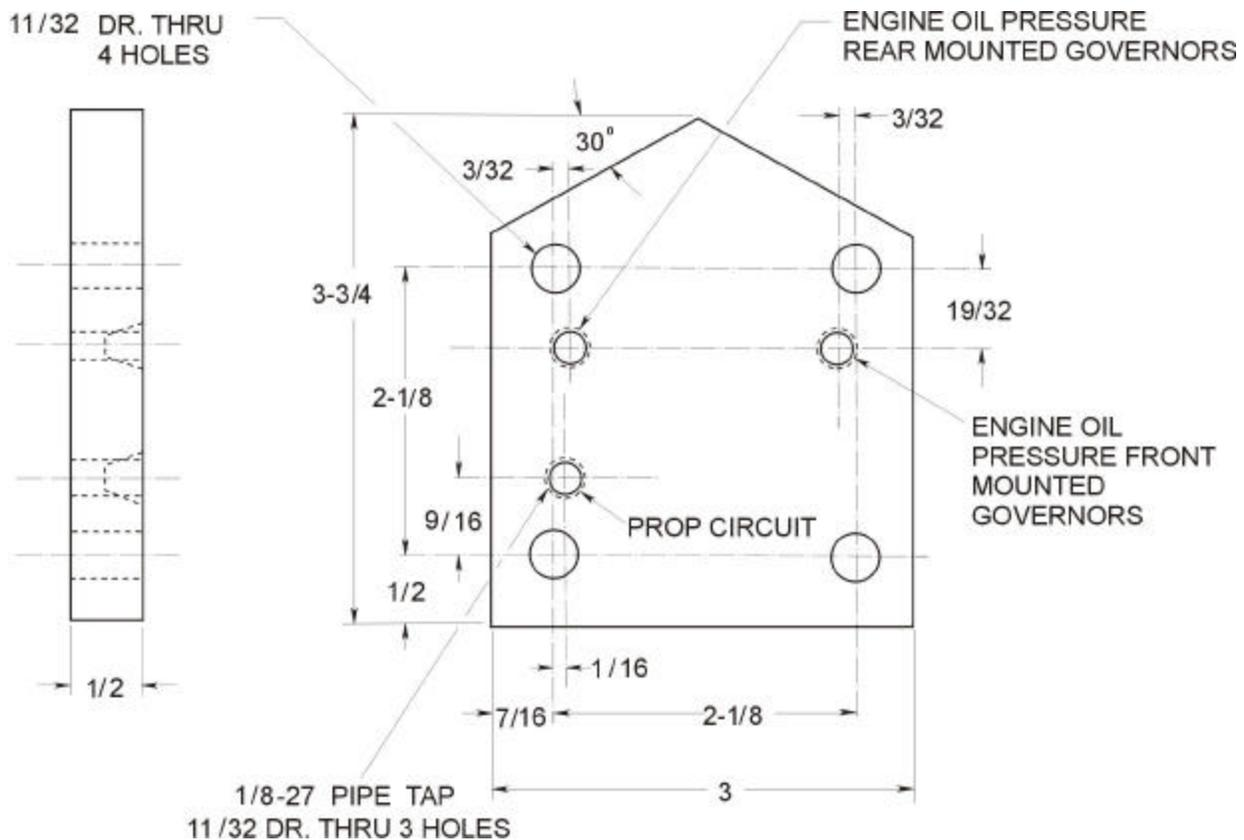

Figure 1. ST-483 Test Plate
2. Front mounted governors: Place the gasket and the test plate P/N ST-483, or equivalent on the governor pad with the air fitting lined up with the governor oil passage that goes to the front bearing (forward hole) or left side of mounting facing the pad. Refer to Figure 1.
3. Rear mounted governors: The left side bottom hole on the test plate goes to the front bearing and crankshaft transfer tube. Refer to Figure 1.